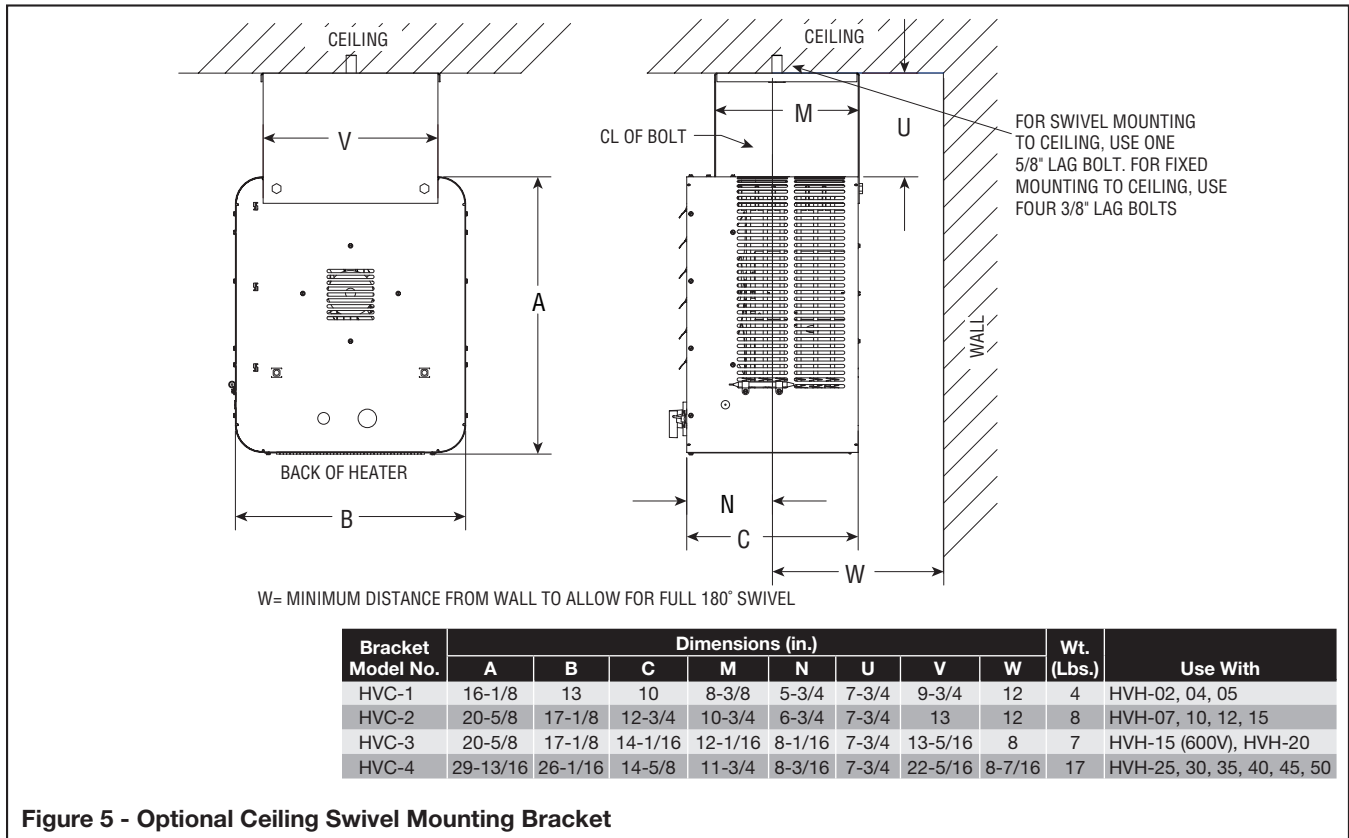

Figure 5 - Optional Ceiling Swivel Mounting Bracket
- For ceiling heights of 12 feet or less, maximum mounting height is determined by the use of the mounting bracket offered for these heaters. Minimum spacing to ceiling is 7-3/4". (See Figure 5)
CEILING – Horizontal Airflow (See Figure 5):
The heater may be rotated to discharge in the desired direction. Open and adjust louvers to desired position. See Figure 5 and 6 for additional mounting details.